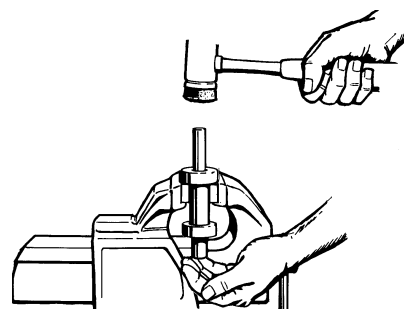

Figure 4-23
- Place the shaft with either bearing resting on top of the jaws and gently tap on the end of the shaft until the bearing is removed. Refer to Figure 4-23.